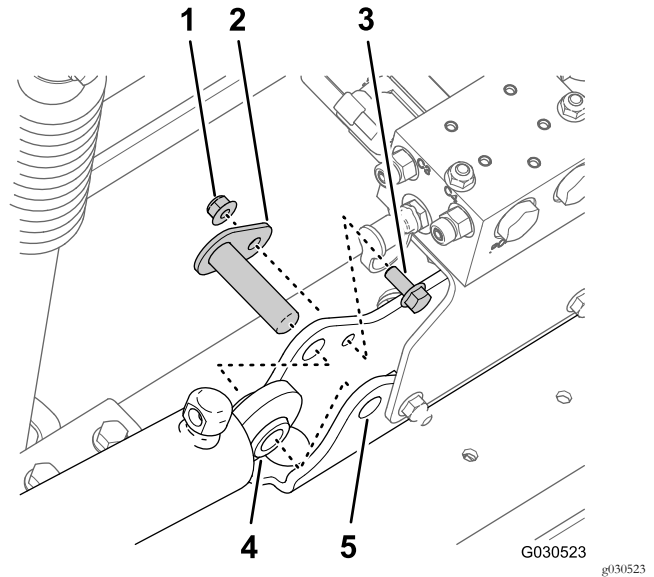

Figure 64
- Remove the flange locknut (5/16 inch) and flange-head bolt (5/16 x 3/4 inch) that secures the pivot pin to the cylinder mount (Figure 64).
- Remove the pivot pin and the lift cylinder from the machine (Figure 64).